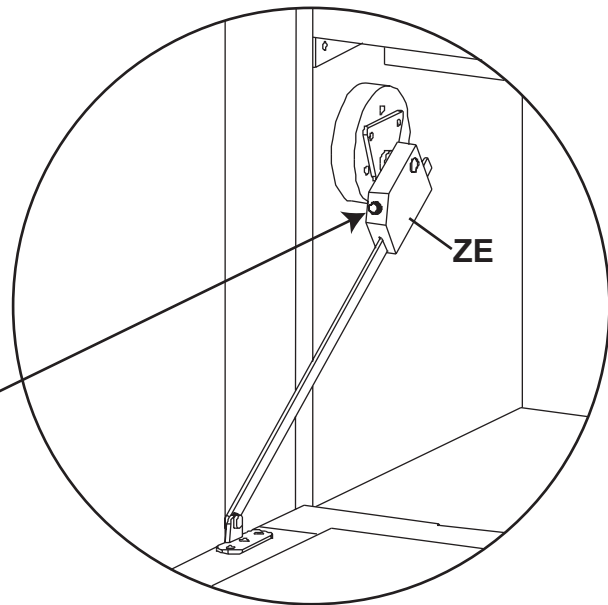

Fig. 14
- 14.** To adjust the brake tension on the Door Stay (ZE), turn the screw on the Door Stay clockwise to loosen or counterclockwise to tighten. See Figures 14 and 14a.